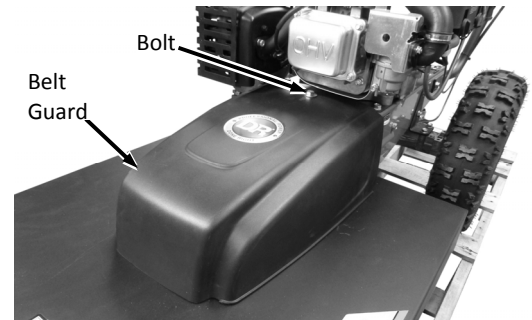

Figure 21
1. Remove the Belt Guard by unscrewing the Bolt using a 9/16" Wrench (Figure 21).